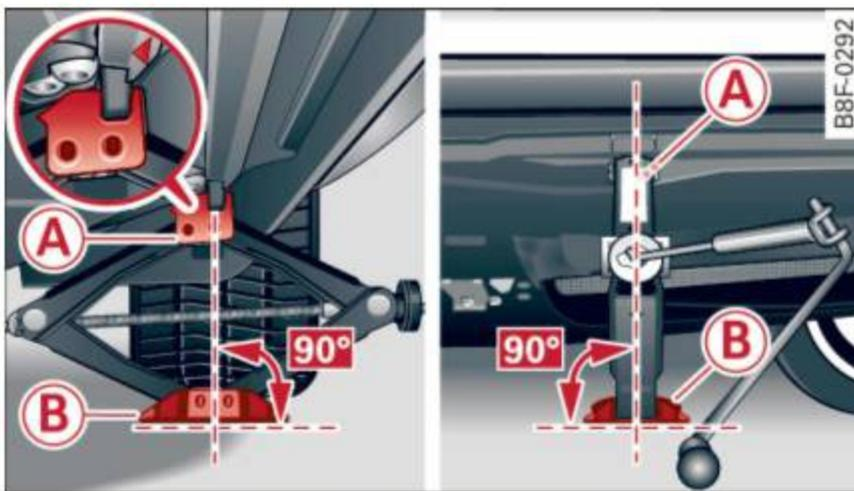

Fig. 179 Sill: positioning the vehicle jack
- ▶ Turn the **vehicle jack** located under the lifting point on the sill to raise the jack until the jaw ⇒ *fig. 179* (A) covers the **notch** on the vehicle ⇒ ⚠ ⇒ !.
- ▶ Align the vehicle jack so the jaw (A) covers the notch and the base plate (B) is flat on the floor. The base plate (B) must be *vertical* under the lifting point (A).